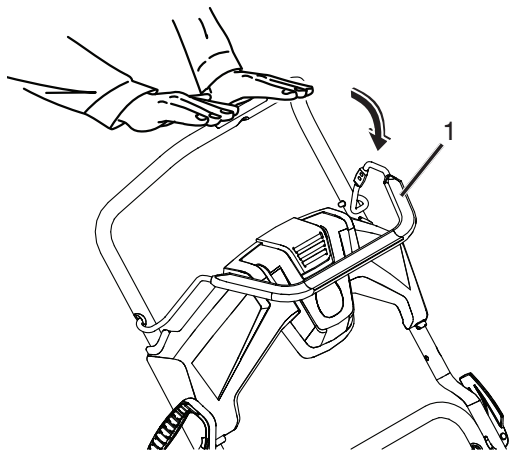

Figure 19
1. Release the control bar to remove the slack in the control cable (Figure 19).